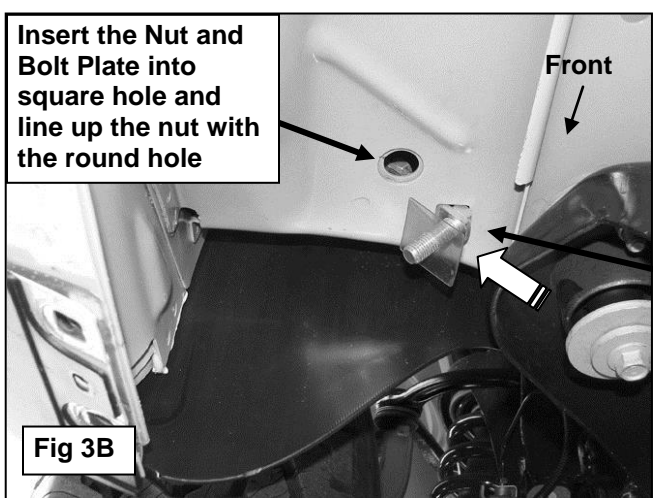
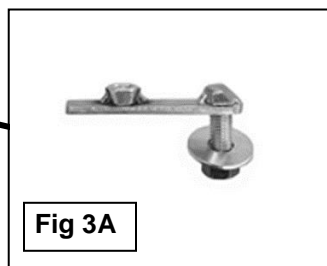

Fig 3B
Fig 3A
4. Next, locate the round and square holes in the floor panel next to the body mount. Select (1) 12mm x 40mm x 10mm Nut and Bolt Plate and thread (1) 12mm Plastic Retainer part way onto it, **(Figure 3A)**. Insert the Nut and Bolt Plate into the square hole in the floor, **(Figure 3B)**. Line up the nut on the Nut and Bolt Plate with the round hole. **IMPORTANT:** The Plastic Retainer is designed to prevent the Bolt Plate from falling into the body cavity and to aid in mounting the Bracket. After inserting, thread the Plastic Retainer down flush against the body panel. **NOTE:** For passenger side installation, temporarily remove the ground strap if interfering with install.